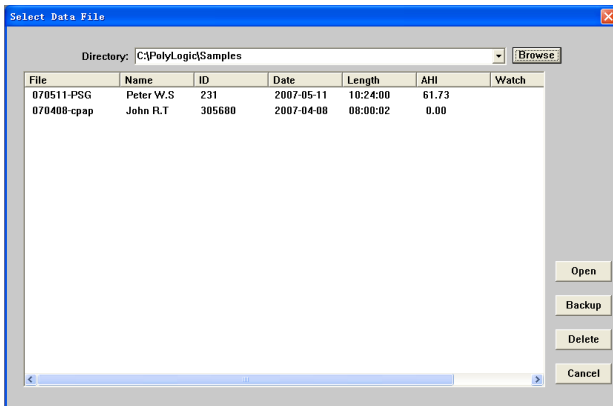

Figure 2-15 “Select Data File” dialog box
① In the main interface of data analysis software, choose "Open" in "File" of the menu bar, the system will enter the sleep data management interface. The screen shows the saved data and its related information in the hard disk (Figure 2-15). The desired data can be easily found by different orders in this interface.
② First of all, find out the route and catalog of the sleep data by using the **"Browse"** button. Then all the files are listed, with the information such as file name, patient name, serial number, recording date, record length, person on duty and data version etc. The files' order can be changed by clicking